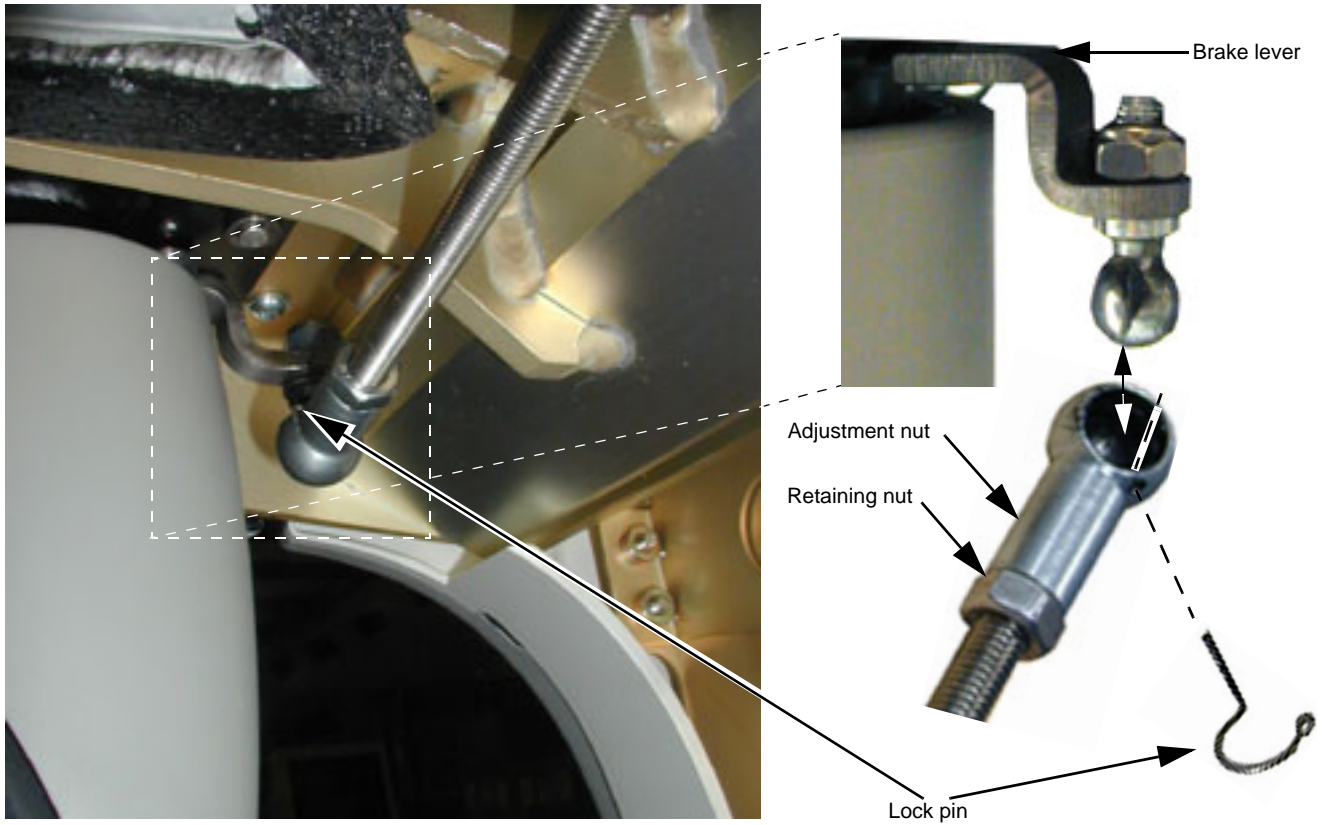

Figure 8-98 Front Caster Brake Arm and Ball Joint Parts
- 1.) Move the ball piece of the joint from old Caster to new Caster (See Figure 8-98).
- 3.) Press the ball joint together and install the lock pin (See Figure 8-98).